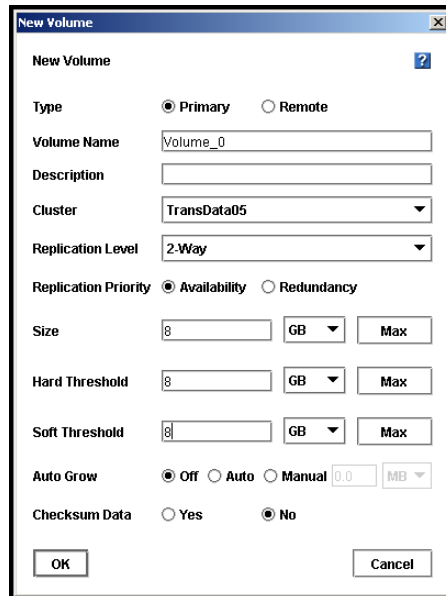

Figure 169. Creating a New Primary Volume
The New Volume window opens, shown in Figure 169. See Table 36 on page 225 for detailed information about setting volume parameters. See “Requirements for Volumes” on page 225 for a detailed description of each item.
5. Select primary as the volume type. The window for a new primary volume is shown in Figure 169. For information about creating a remote volume, see the *Remote IP Copy User Manual*. If you are creating a remote volume, see “Creating a Remote Volume” on page 346